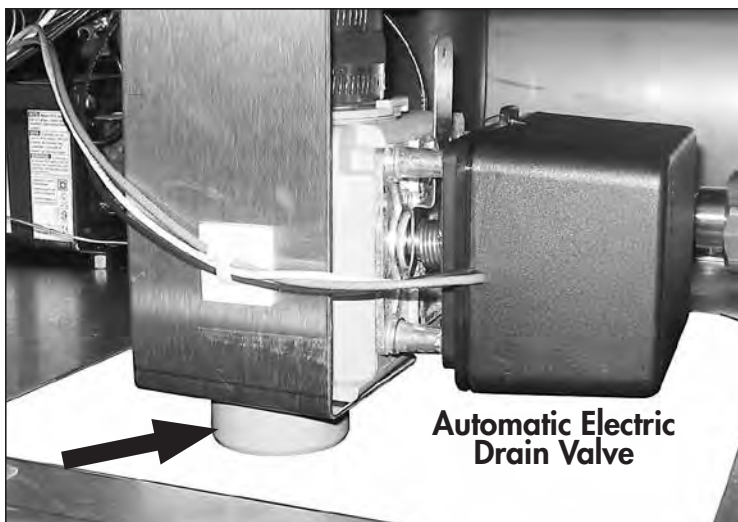

Fig. 10 - The drain is a 2" OD slip-fit hose connection.
1. A conduit mounting bracket is located at the right rear corner of the machine base as shown in Fig. 10 below. Position the machine near its permanent location and route the flexible conduit to the machine making sure to leave a 6 foot / 2 meter service loop.